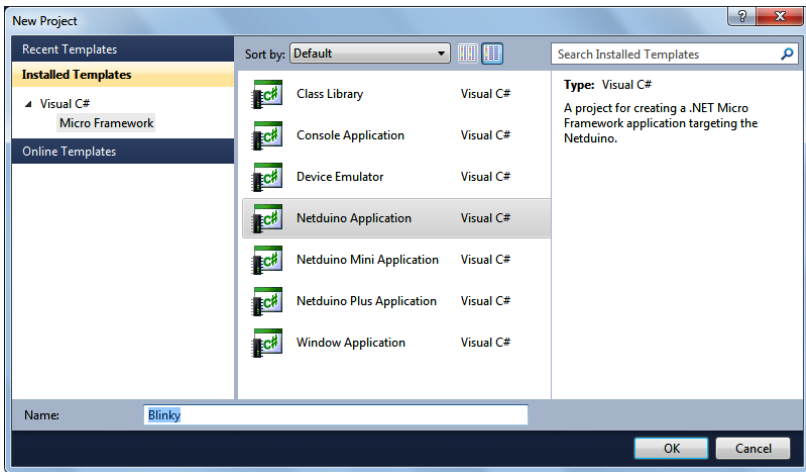

Figure 3-1. Create a new project
- The New Project window should now pop up. Visual Studio displays a set of installed templates. We want to pick Visual C#→Micro Framework from the list on the left. Then pick Netduino Application from the list on the right. Give your project a name such as Blinky (as shown in Figure 3-1), and click OK.